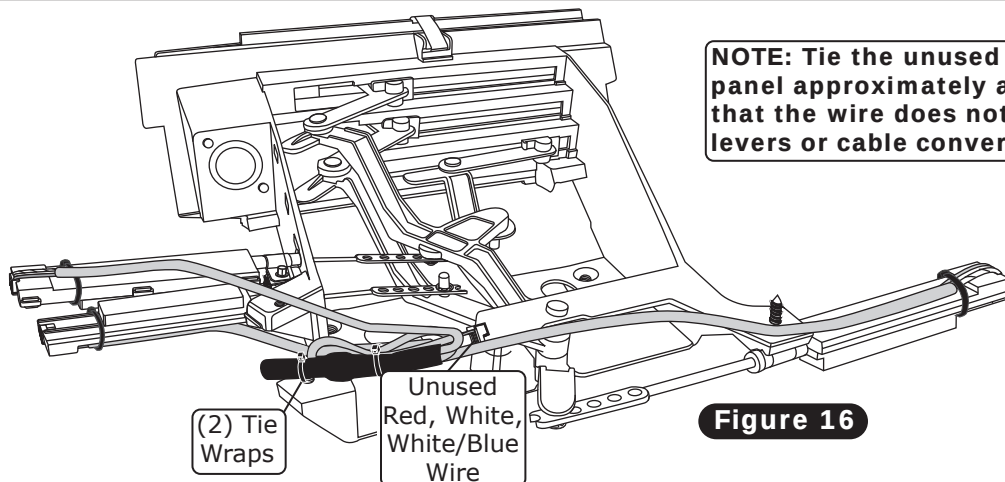

Figure 16
1. Using the supplied tie wraps, tie the wires to the control panel as shown in Figure 16, below. Confirm that wires are secured and do not interfere with lever operation or cable converter assemblies.